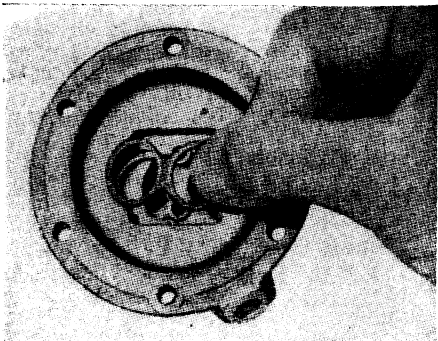

Fig. 26 Series R. Installing valve seat gaskets
8. Stand the cover casting on the bench with the flange up. Drop the fibre valve seat gaskets, Fig. 26, down into the two valve pockets. Drop the valves down into valve holes on top of paper gaskets. Three legs up for inlet valve and legs down for outlet valve.